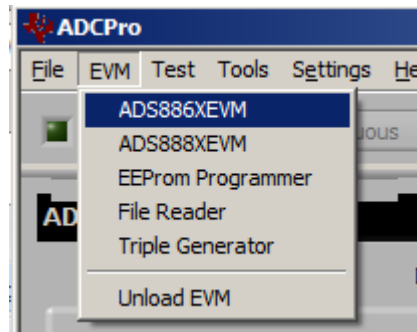

Figure 9. Loading EVM Plug-in
- Step 4. Load the ADS886XEVM plug-in from the ADCPro drop-down *EVM* menu, as shown in Figure 9. Note that only one EVM plug-in can be loaded at a time. If a different plug-in is selected, the previous plug-in is unloaded.